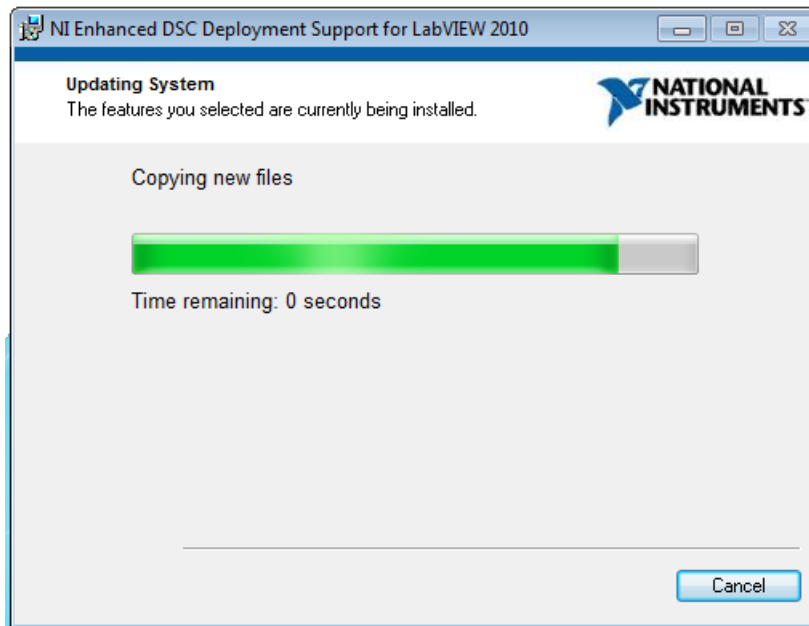

Figure 28. LabVIEW RTE Installation in Progress
4. The installer begins self-extraction and proceeds with the installation as shown in Figure 28.